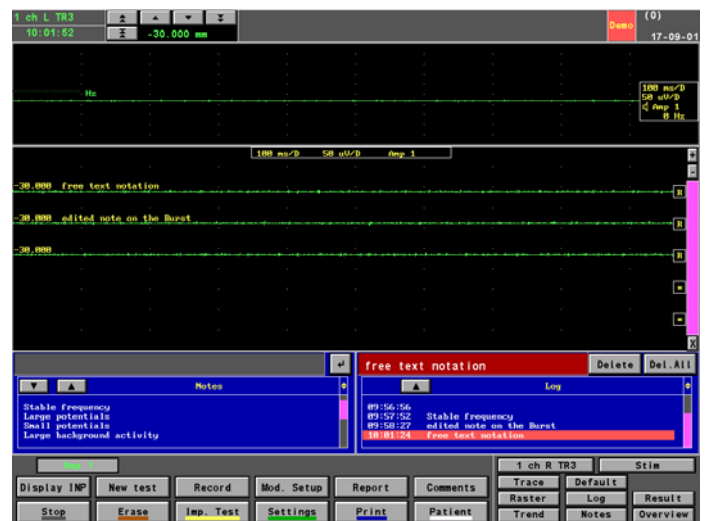

Figure 17 Saved Note just above the Trace in the Raster Window
- If the Log Window is absent, you display the Log Window by clicking  in the lower-right part of the screen, see Figure 17 below, and then: